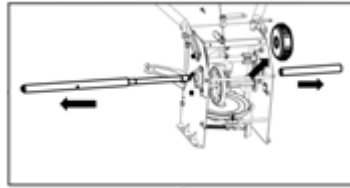

Fig. 25
3. Pull out the drive shaft. See Figure 25.